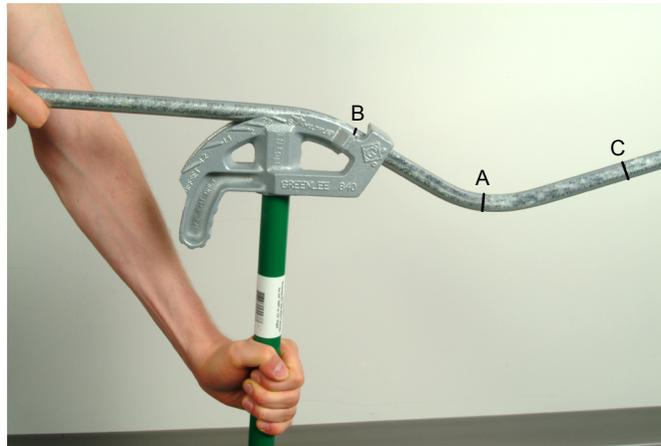

Figure 45. Bend the conduit until you reach a 22 1/2° angle.
- Make sure the bender is in line with the center 45° bend and bend the conduit at this location until you reach a 22 1/2° angle as shown in Figure 45.